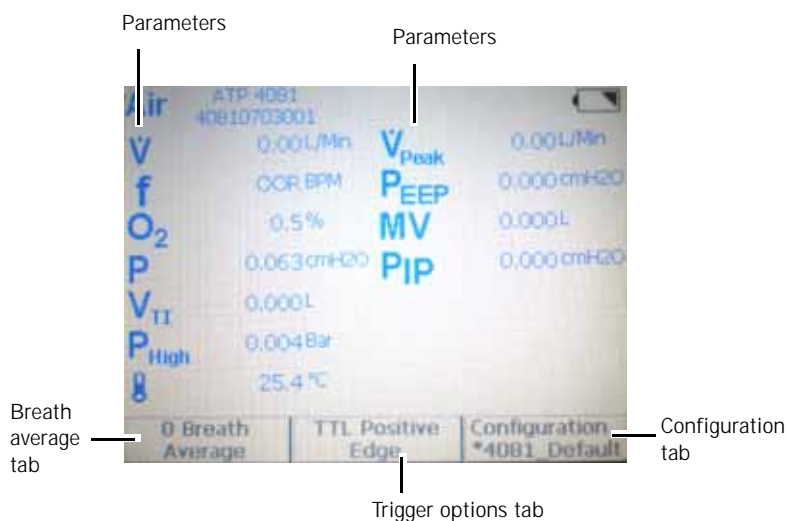

Figure 8-3: Main Screen
1. Touch any parameter on the touch screen (refer to Figure 8-3) to display the Measurement Selection screen.
1. Touch the Breath Average tab (refer to Figure 8-3) to display the Averaging Setup Menu screen.
1. Touch the Trigger Options tab (refer to Figure 8-3) to display the Trigger Options screen.
1. Touch the "Configuration" tab (refer to Figure 8-3).